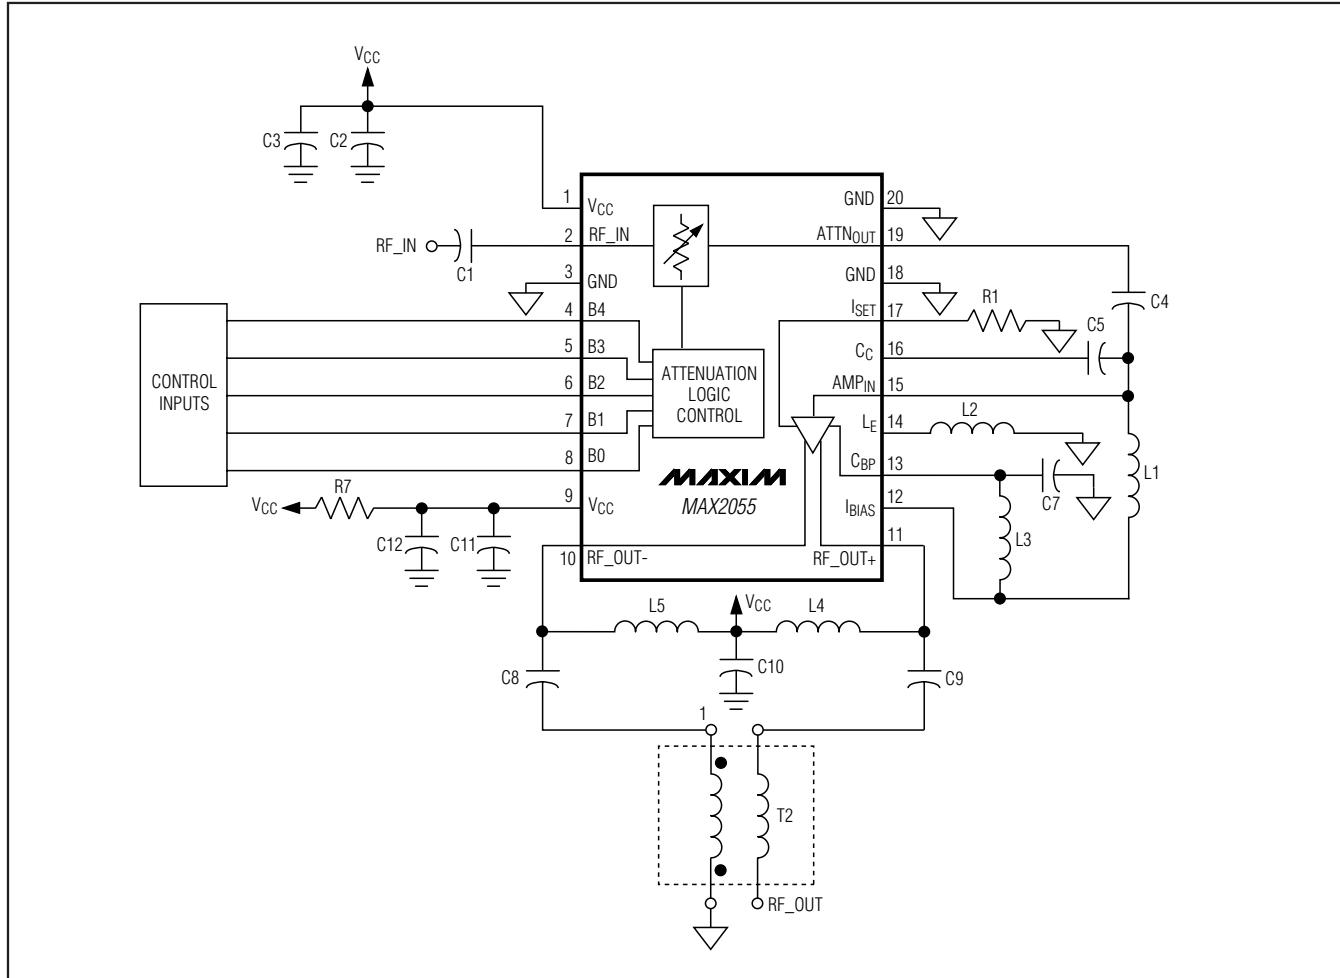

Figure 2. Low-Cost Application Circuit
(Circuit of Figure 2,  $V_{CC} = 5.0\text{V}$ ,  $R_1 = 909\Omega$ , max gain, ( $B_0 = B_1 = B_2 = B_3 = B_4 = 0$ ),  $P_{OUT} = 5\text{dBm}$ ,  $T_A = +25^\circ\text{C}$ , unless otherwise noted.)
(Circuit of Figure 2,  $V_{CC} = 5.0V$ ,  $R_1 = 909\Omega$ , max gain, ( $B_0 = B_1 = B_2 = B_3 = B_4 = 0$ ),  $P_{OUT} = 5\text{dBm}$ ,  $T_A = +25^\circ\text{C}$ , unless otherwise noted.)
**Table 2. Suggested Components of Circuit of Figure 2**
feedback topology. This amplifier is optimized for a frequency range of operation from 30MHz to 300MHz with a high-output third-order intercept point (OIP3). The bias current is chosen to optimize the IP3 of the amplifier. When R1 is  $1.13\text{k}\Omega$  ( $909\Omega$  if using the circuit of Figure 2), the current consumption is 240mA while exhibiting a 40dBm typical output IP3 at 70MHz. The common-mode inductor, L2, provides a high common-mode rejection with excellent amplitude and phase balance at the output. L2 must handle the supply current and have DC resistance less than  $0.2\Omega$ .